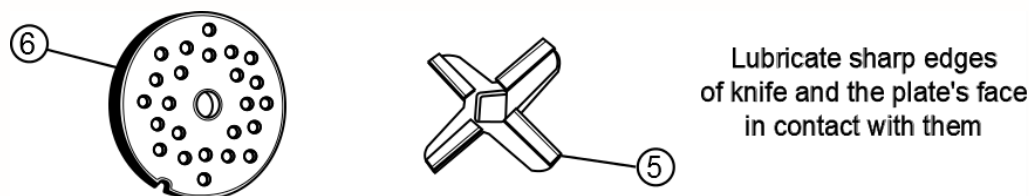

FIG. 8 PARTS TO LUBRICATE AFTER CLEANING
- Using a soft bristle brush (not provided), clean with adequate detergent each component, specially inside headstock (2) to eliminate waste and debris of food.
- It is important after doing this procedure, to lubricate the knife (5) and plate (6) with the included mineral oil (**See Fig 8**). Also to make easier the assembly, we recommend to apply some mineral oil to Headstock (2) entry also.